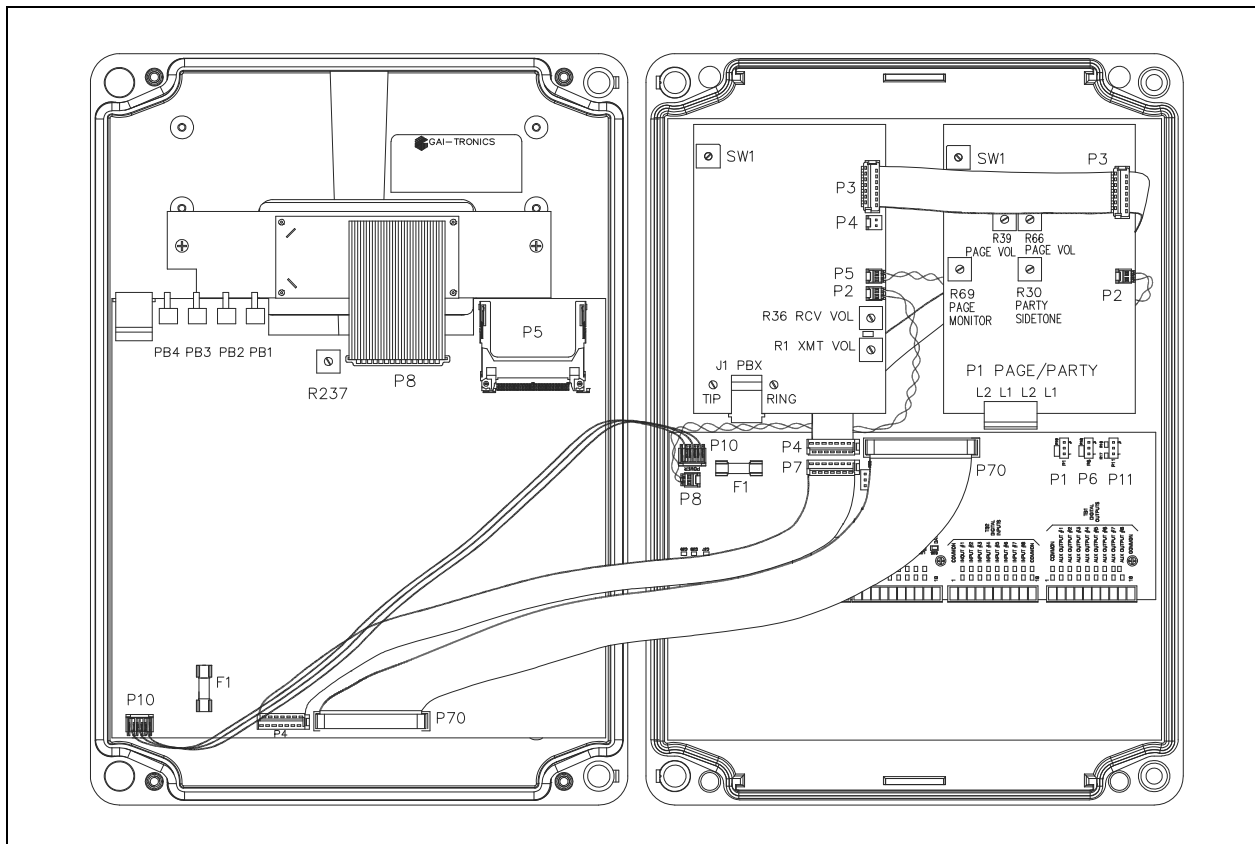

Figure 2. Wiring Connections (Model 10959-203 shown)
2. Open the enclosure's hinged front cover and turn it to the left. (see Figure 2).